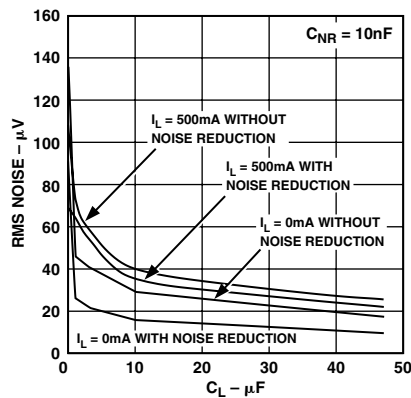

Figure 18. RMS Noise vs.  $C_L$  (10 Hz-100 kHz)
A noise reduction capacitor ( $C_{\text{NR}}$ ) can be used to further reduce the noise by 6 dB–10 dB (Figure 18) low leakage capacitors in 10 pF–500 pF range provide the best performance. Since the noise reduction pin (NR) is internally connected to a high impedance node, any connection to this node should be carefully done to avoid noise pickup from external sources. The pad connected to this pin should be as small as possible and long PC board traces are not recommended.